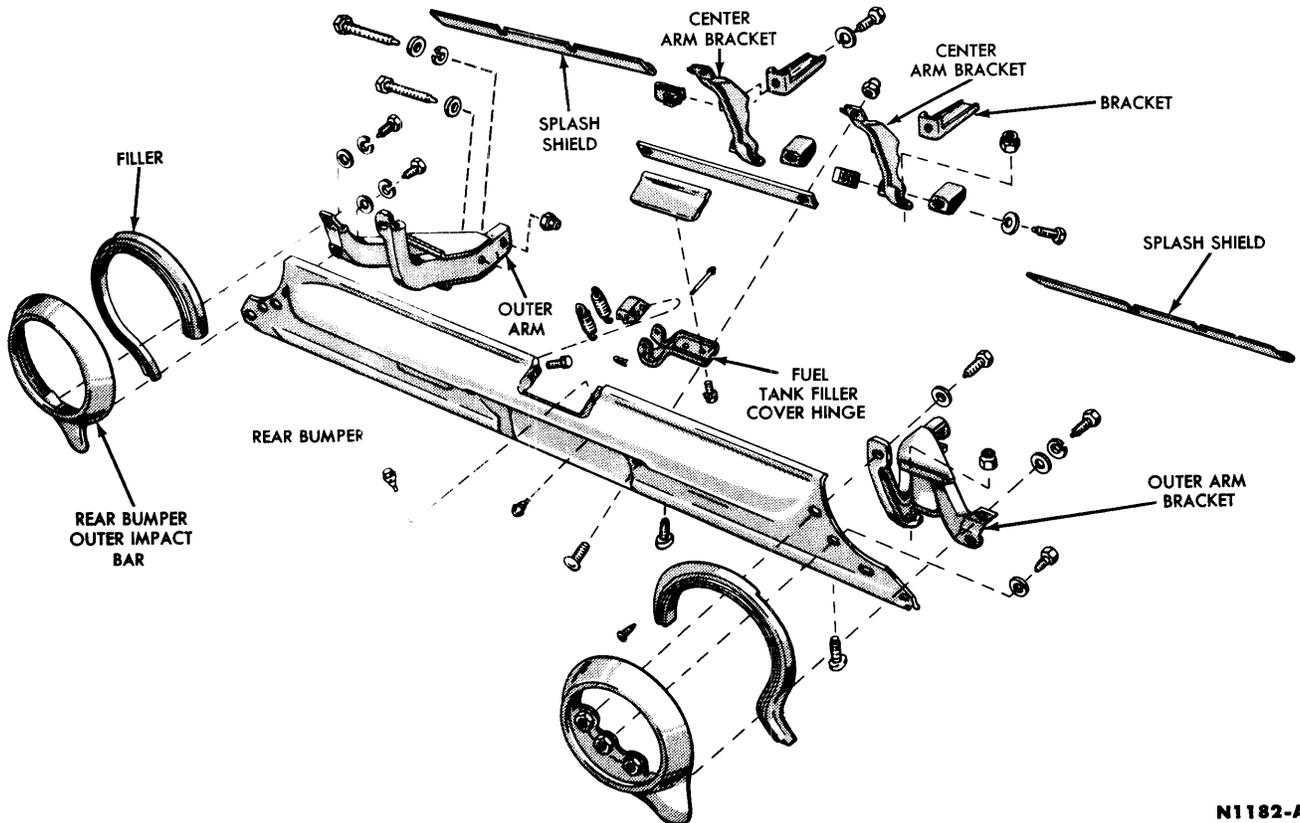

FIG. 4—Rear Bumper
3. Remove the bolts retaining the outer and center arm brackets to the underbody (Fig. 4), and remove the bumper assembly.